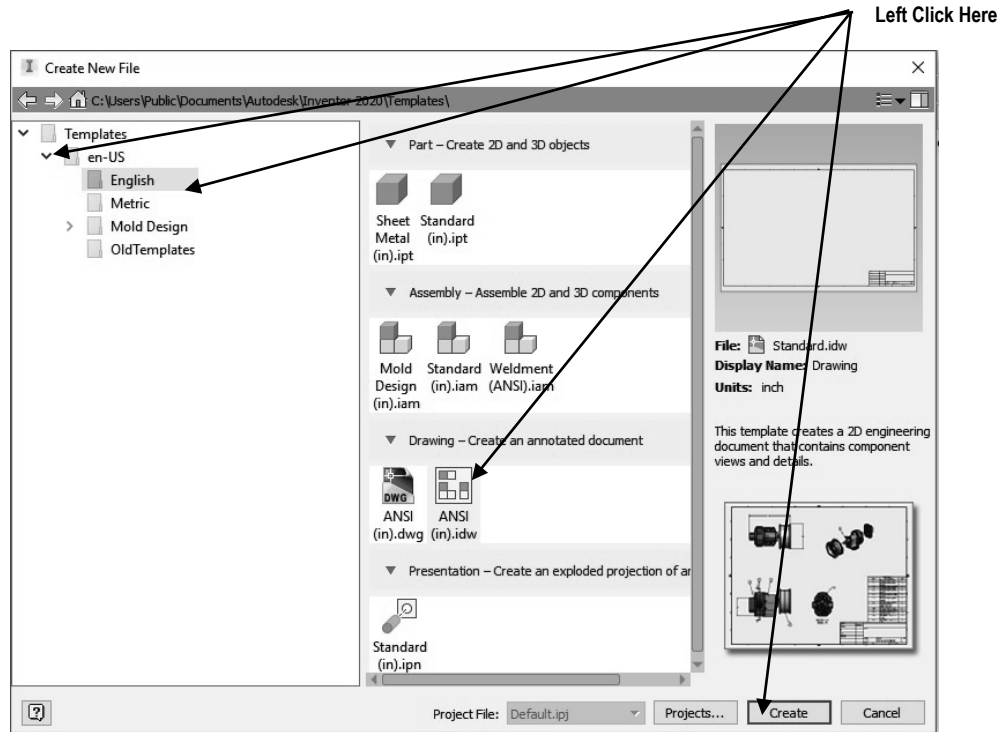

Figure 10
- The Create New File dialog box is shown below. Left click on the drop-down arrow next to en-US. Left click on the **English** folder. Left click on the **ANSI (in).idw**. Left click on **Create** as shown in Figure 10.